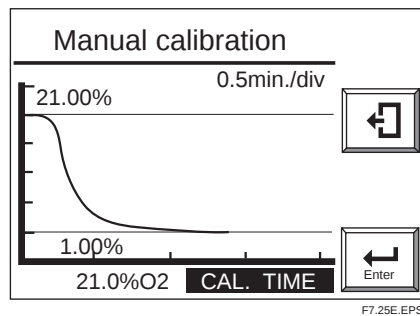

Figure 7.25 Manual Calibration, Trend Graph
- (8) If “Valve opened” is selected as in Figure 7.23, an oxygen-concentration trend graph (with the oxygen concentration being measured) appears (see Figure 7.25). The “CAL. TIME” in the bottom area of the panel flashes. Observe the trend graph and wait until the measured value stabilizes in the vicinity of the zero-gas concentration on the graph. At this point, no calibration has been executed yet, so even if the measured value is above or below the zero-gas concentration value, no problem occurs.